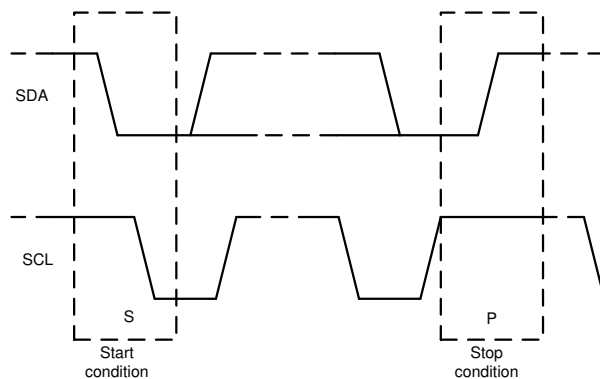

**Figure 7-13. Acknowledge and Not Acknowledge on the I2C Bus**
Other than specific timing signals, the I2C interface works with serial bytes. At the end of each byte, a ninth clock cycle generates and detects an acknowledge signal. An acknowledge is when the SDA line is pulled low during the high period of the ninth clock cycle. A not-acknowledge is when the SDA line is left high during the high period of the ninth clock cycle, as shown in Figure 7-13.
2. The controller then generates the SCL pulses, and transmits the 7-bit address and the read/write direction bit ( $R/\bar{W}$ ) on the SDA line. During all transmissions, the controller makes sure that data are valid. A valid data condition requires the SDA line to be stable during the entire high period of the clock pulse, as shown in Figure 7-15. All devices recognize the address sent by the controller and compare the address to the respective internal fixed address. Only the target device with a matching address generates an acknowledge by pulling the SDA line low during the entire high period of the 9th SCL cycle, as shown in Figure 7-13. When the controller detects this acknowledge, the communication link with a target has been established.